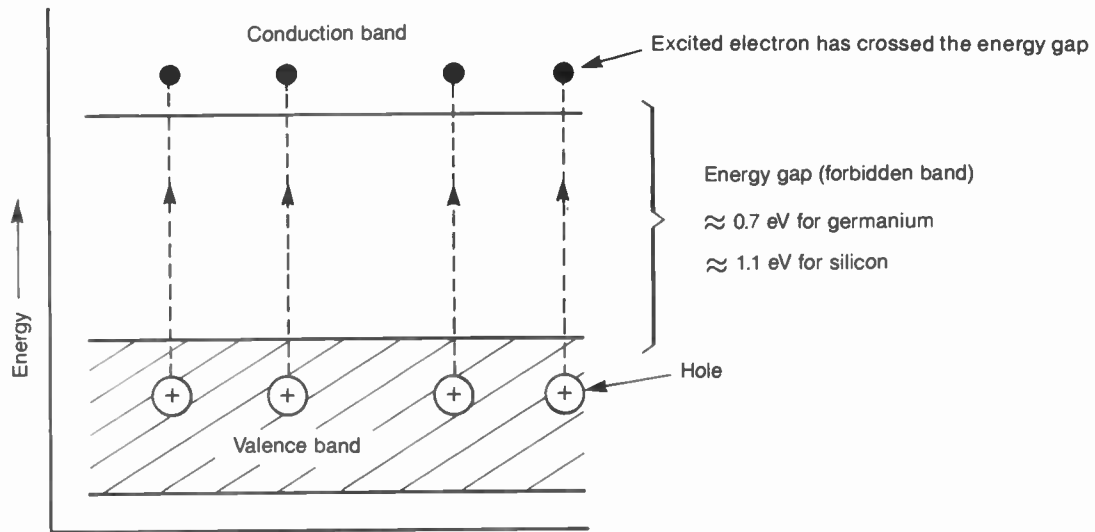

Fig. 19 Energy Bands in an Intrinsic Semiconductor
**INTRINSIC SEMICONDUCTOR** The term *intrinsic* is used to distinguish a semiconductor from one which relies on the presence of impurities for its special semiconducting properties. In other words, it refers to the pure semiconducting material. At absolute zero of temperature the uppermost energy band is the valence band for there is an energy gap [the forbidden band – see Fig.E12(iv)] between the valence and the conduction band which no electron has the energy to jump. Accordingly the conduction band is empty and the semiconductor is in fact an insulator. As temperature rises however, some electrons in the valence band gain energy and are excited across the energy gap into the conduction band, so leaving an equal number of holes in the valence band as suggested in Figure 19. The semiconductor therefore exhibits a positive temperature-dependent conductivity, this is the intrinsic conductivity.